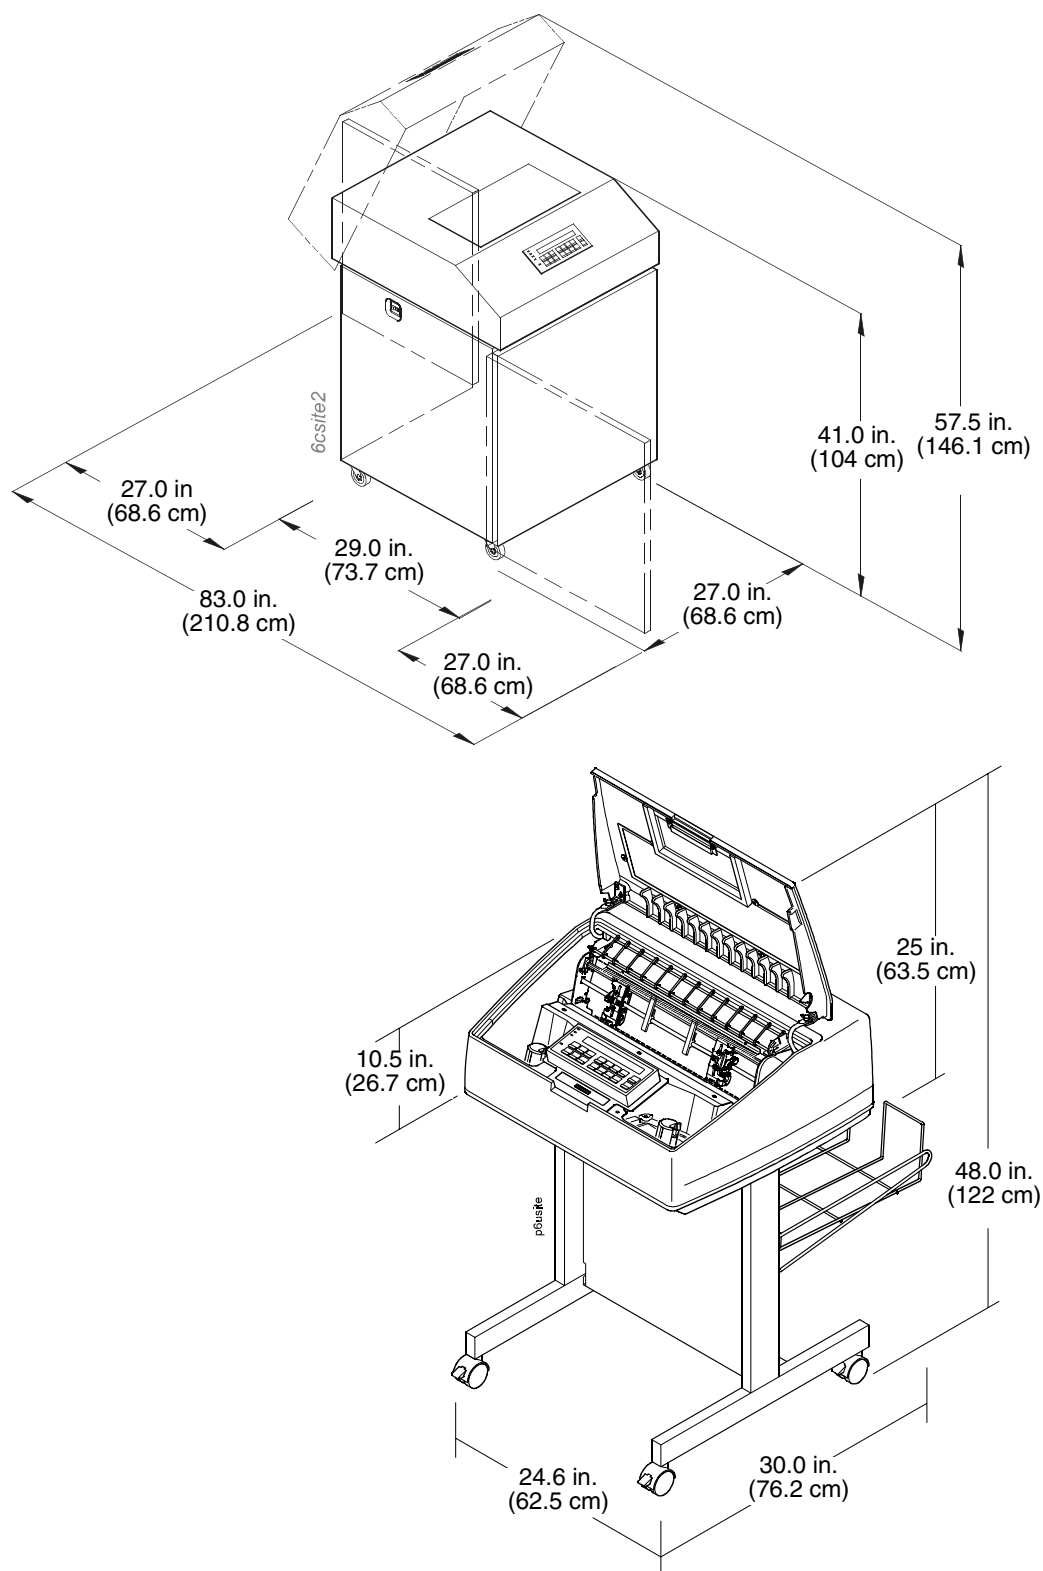

Figure 2. Printer Dimensions
- Cabinet models: Permits complete opening of the printer cover and both doors of the floor cabinet. See dimension requirements in Figure 2.
- Pedestal models: Permits complete opening of the printer cover and good access to the paper areas at the front and rear of the printer. See dimension requirements in Figure 2. In addition, the location for the pedestal models must be able to handle the acoustics level of the printer.